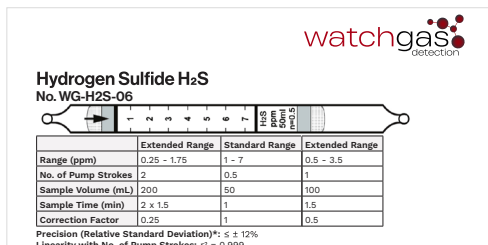

Figure 3. Excerpt of a Tube Data Sheet
2. Data Sheet. Each box is accompanied by a Data Sheet that provides detailed information on the tube's performance. Figure 3 shows an excerpt from a typical data sheet. Complete data sheets are available in Chapter 5 and are discussed in detail in Chapters 4.2 and 4.3.